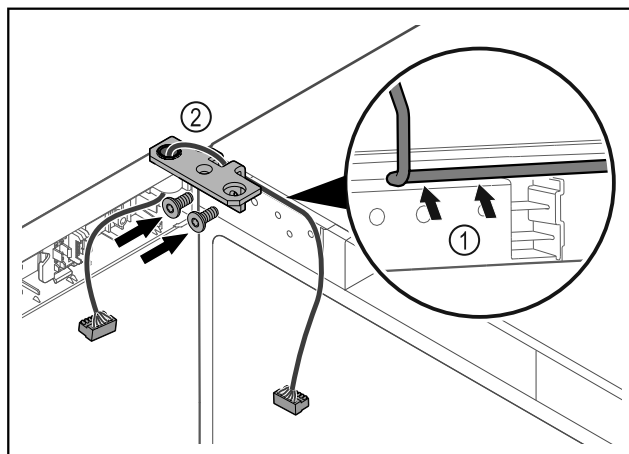

Fig. 40
- Feed the cable through the recess in the hinge and lay it carefully Fig. 40 (1).
- Screw on the hinge Fig. 40 (2).